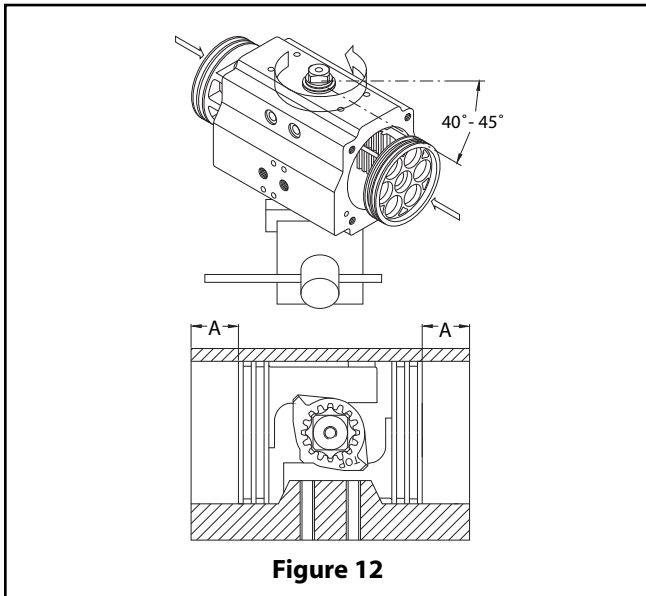

Figure 12
E. For standard-rotation assembly (clockwise to close) rotate the body (50) 40 – 45° counterclockwise (if viewing the bottom of the actuator), or clockwise (if viewing the top of the actuator) as shown in (Figure 12).
F. Press the two pistons (40) simultaneously into the body (50) until the piston racks are engaged and rotate the body clockwise (if viewing the bottom of the actuator), or counter-clockwise (if viewing the top of the actuator), until the stroke is completed.
G. To ensure that the piston (40) teeth are evenly engaged, fully compress both pistons (40) inward and measure the distance from the edge of the body to the piston (40) face on each side, shown as dimension "A" in (Figure 12). If a different value is obtained on each side, remove the pistons and repeat from step 2d.